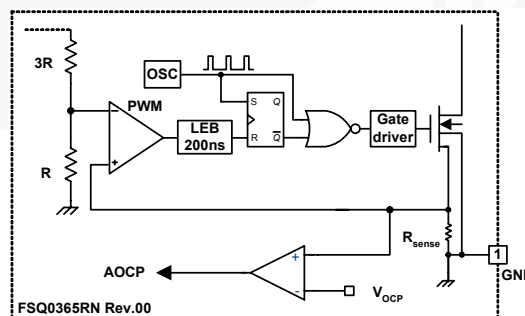

Figure 25. Abnormal Over-Current Protection
**4.2 Abnormal Over-Current Protection (AOCP):** When the secondary rectifier diodes or the transformer pins are shorted, a steep current with extremely high-di/dt can flow through the SenseFET during the LEB time. Even though the FSQ-series has OLP (Overload Protection), it is not enough to protect the FSQ-series in that abnormal case, since severe current stress is imposed on the SenseFET until OLP triggers. The FSQ-series has an internal AOCP (Abnormal Over-Current Protection) circuit as shown in Figure 25. When the gate turn-on signal is applied to the power SenseFET, the AOCP block is enabled and monitors the current through the sensing resistor. The voltage across the resistor is compared with a preset AOCP level. If the sensing resistor voltage is greater than the AOCP level, the set signal is applied to the latch, resulting in the shutdown of the SMPS.